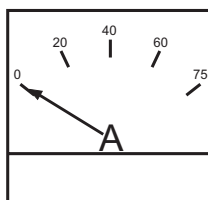

Figure 43. Ammeter (No Load)
11. The ammeter (Figure 43) will indicate zero amps with no load applied. When a load is applied, this meter will indicate the amount of current that the load is drawing from the generator's alternator.